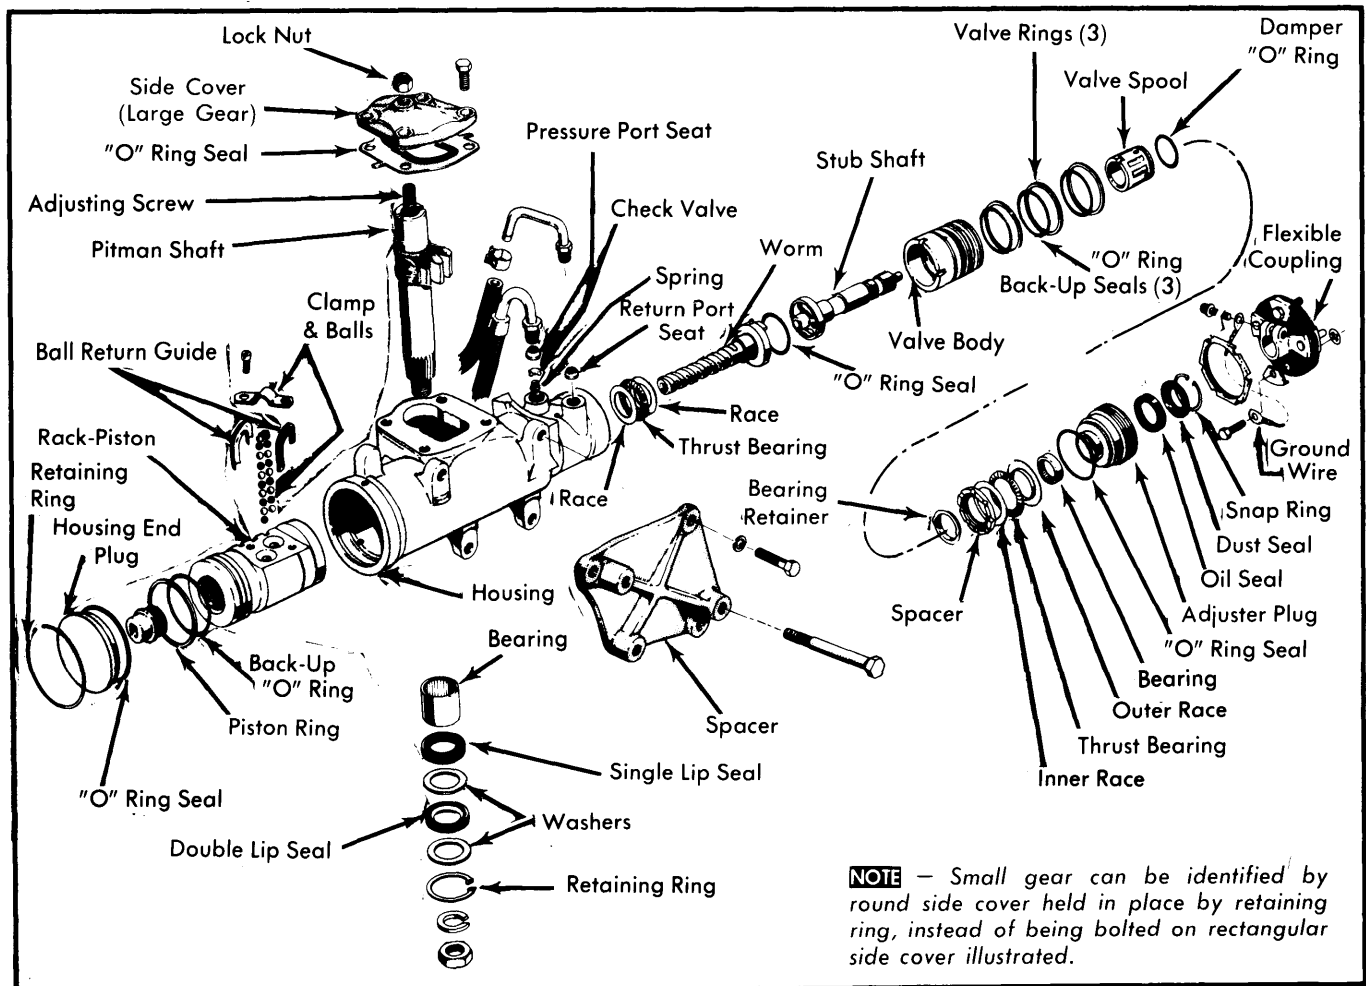

Fig. 1 Saginaw Rotary Valve Power Steering Gear (Model 800-808 Shown)
**Reassembly** – 1) Lubricate all parts with power steering fluid. Install all parts in reverse order of removal. See Fig. 1. Install lower shaft cap "O" ring in valve body so it is seated against lower shaft cap. Align narrow notch in valve body with pin in worm, then install valve shaft assembly in gear housing.